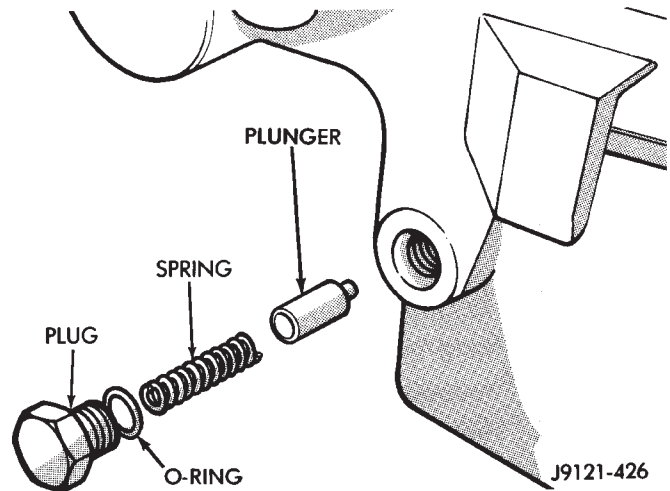

Fig. 13 Detent Component Removal
(22) Remove transfer case shift lever nut and lever.
(23) Remove shift detent plug, spring and pin (Fig. 13)